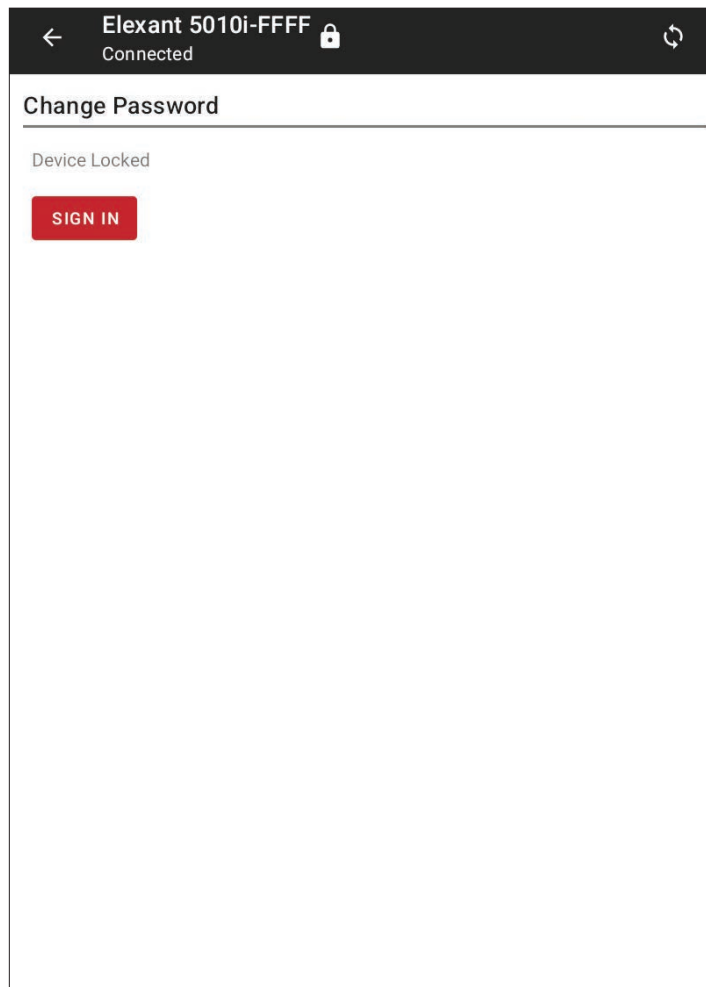
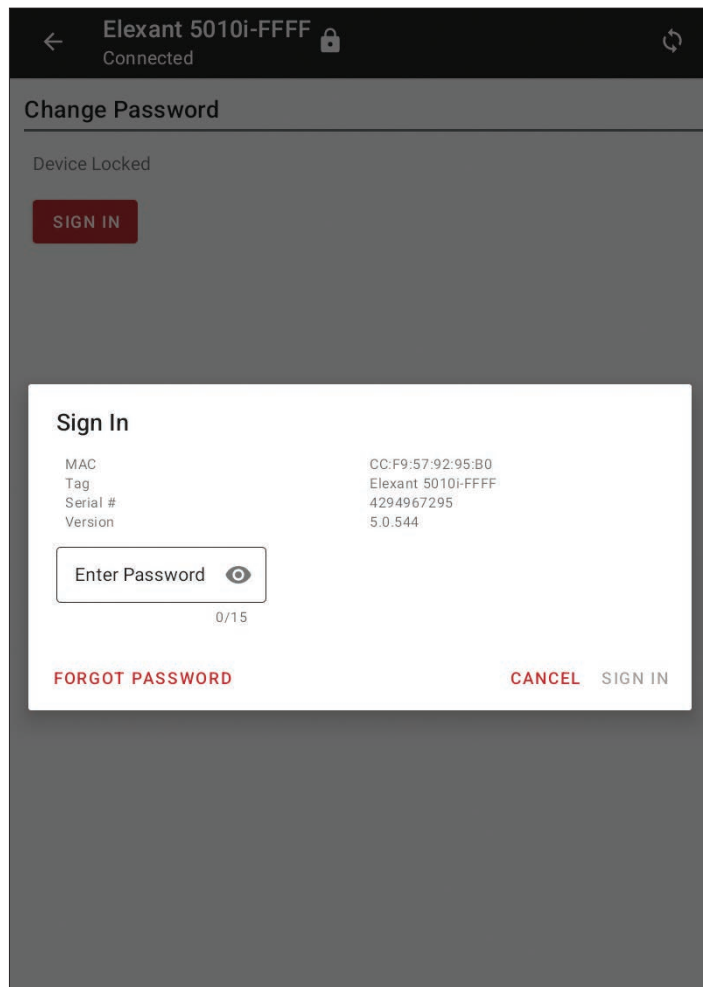

Figure 14: Device Locked
Figure 15: Sign In Popup Screen
- Click the Lock Icon on the top of the screen and you will be prompted asking you to Sign in. Click Sign in and you will be directed to the Sign-In Popup Screen **(Fig.15)**
- Try to change any of the values with a white background and you will be prompted asking you to Sign in. Click Sign in and you will be directed to the Sign-In Popup Screen **(Fig.15)**
- Navigate to the Bluetooth® Security Screen and click "SIGN IN" **(Fig. 14)** and it will lead you to the Sign-In Popup Screen **(Fig. 15)**.